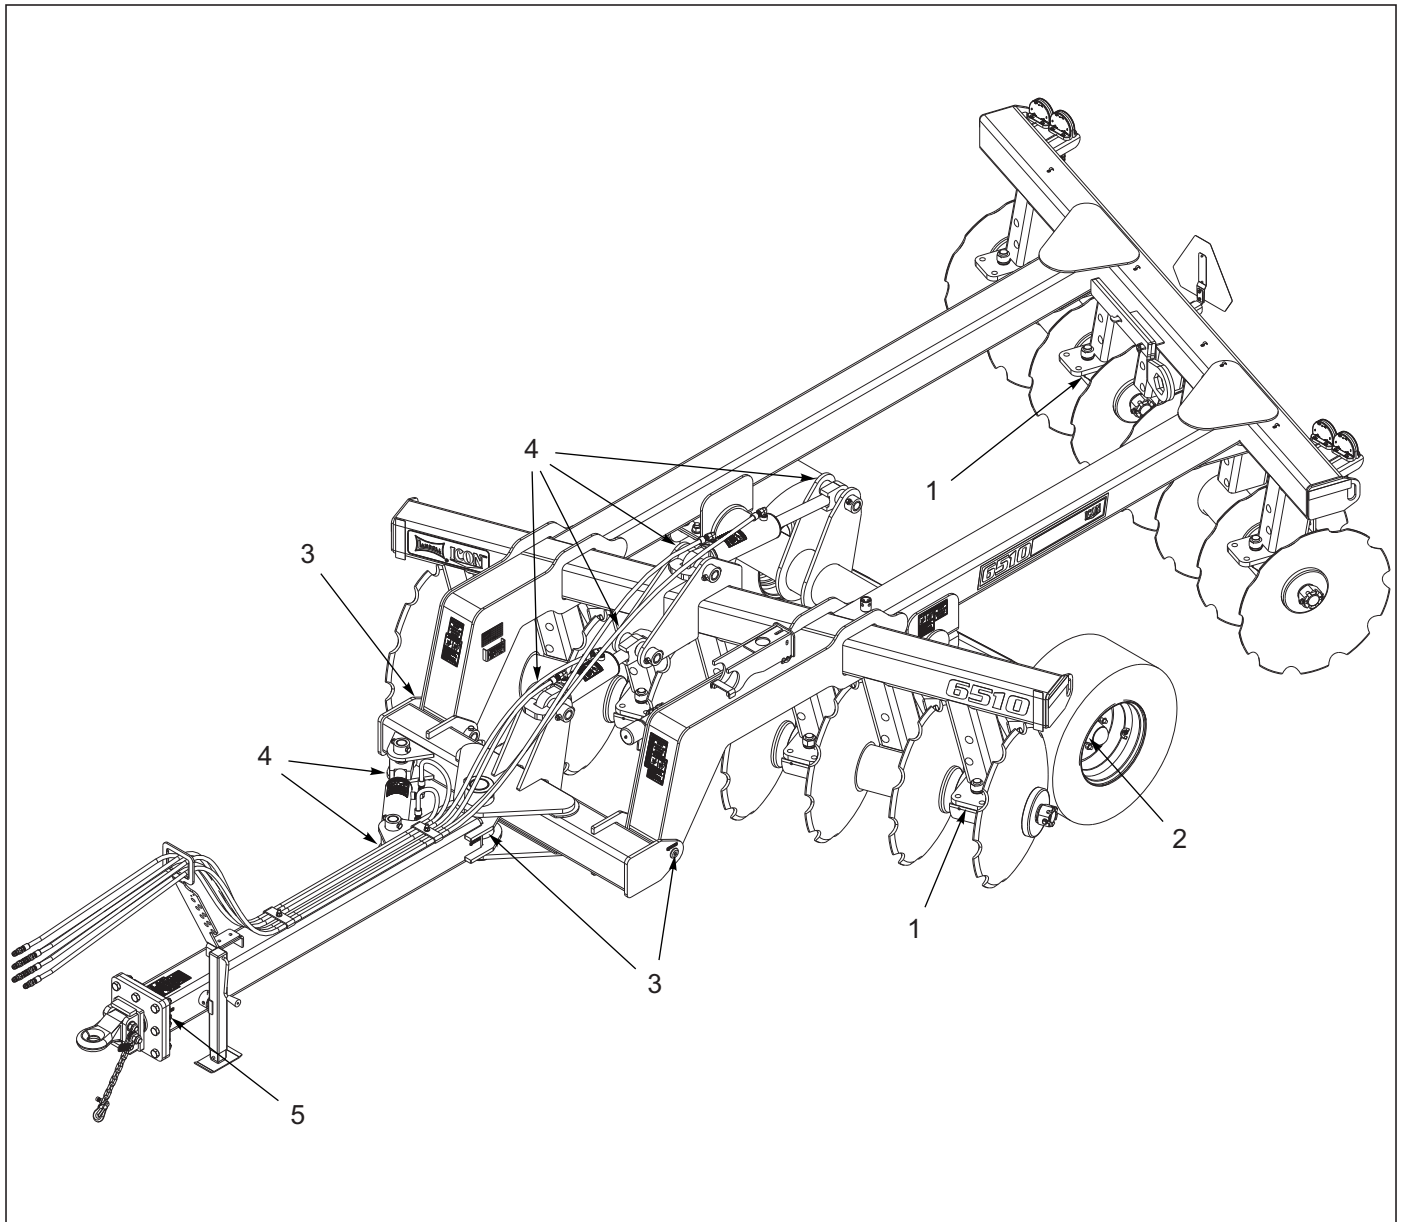

Figure 3-2: Lubrication Schedule
1. **Table 3-2** specifies the number and the period of lubrication points on the 6510 Disc. Proper maintenance of your machine will, under normal operating conditions, help to keep it operating at or near its peak performance for an extended period of time. Proper maintenance is also a condition of keeping your warranty in good status **See Figure 3-2**.
6. Lubricate the machine as shown in "Lubrication Schedule" on page 3-3 ,*See Figure 3-2*